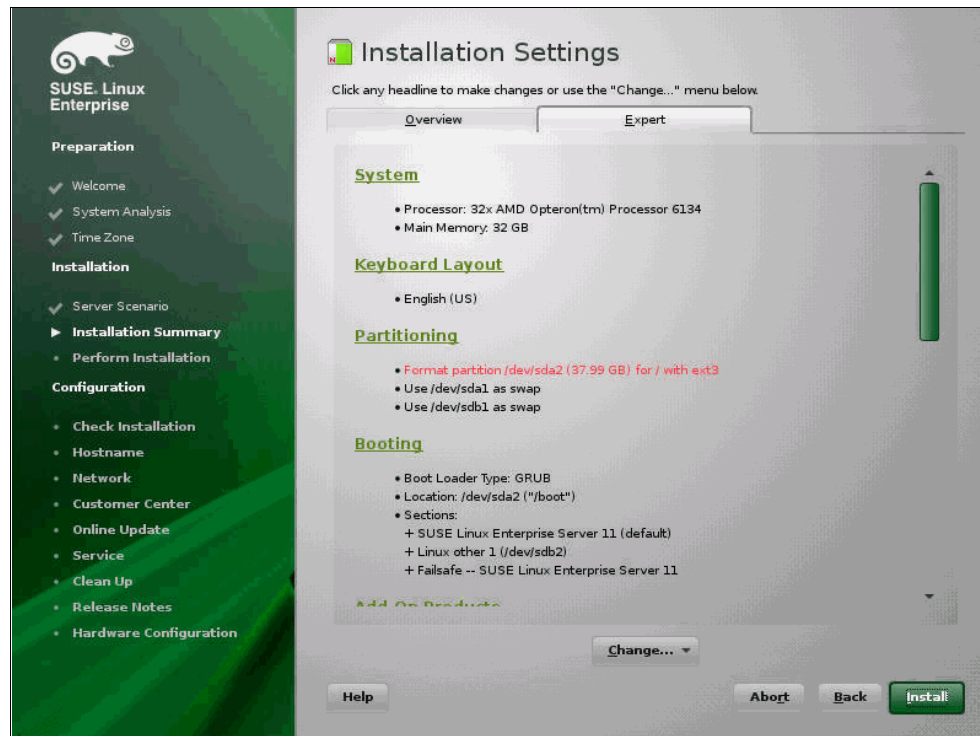

Figure 3-57 Installing using the Expert Configuration
13. SUSE Linux already has the drivers and multipath tool to support a DS8000 Subsystem with multiple accesses to the LUN, so you can configure the installation process to use multiple paths in this case, during the installation process. To proceed using multiple paths, you need to use the *Expert Installation* setting and change the Partitioning and Boot options, as shown in Figure 3-57.